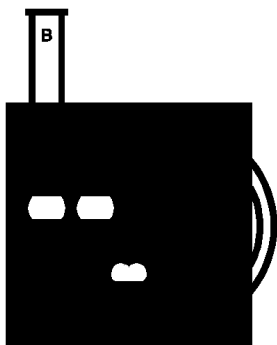

Figure 1, Placing the Blank
- Place the tube of untreated water sample in the left top opening of the color comparator, this is known as the blank sample. (See Figure 1).